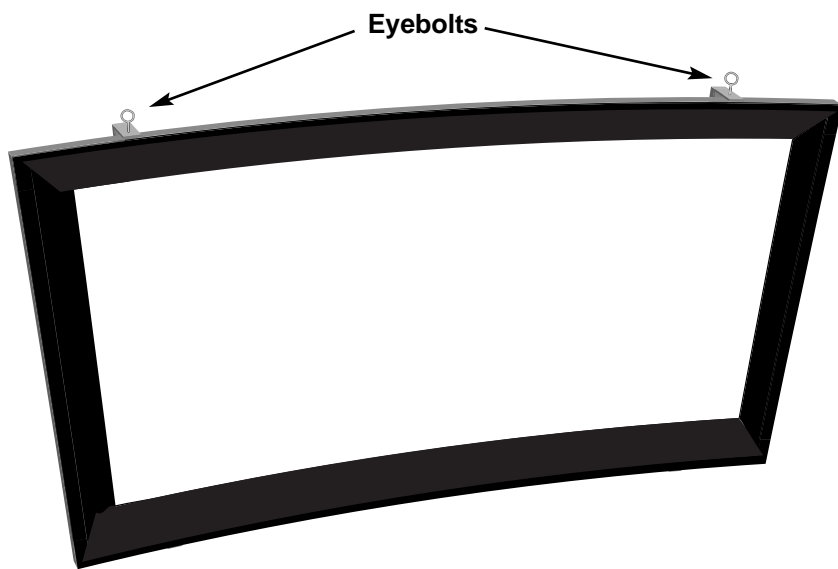

Figure 4: Completed stage fly mount installation
3. Hang the frame from the eyebolts as shown in Figure 4.